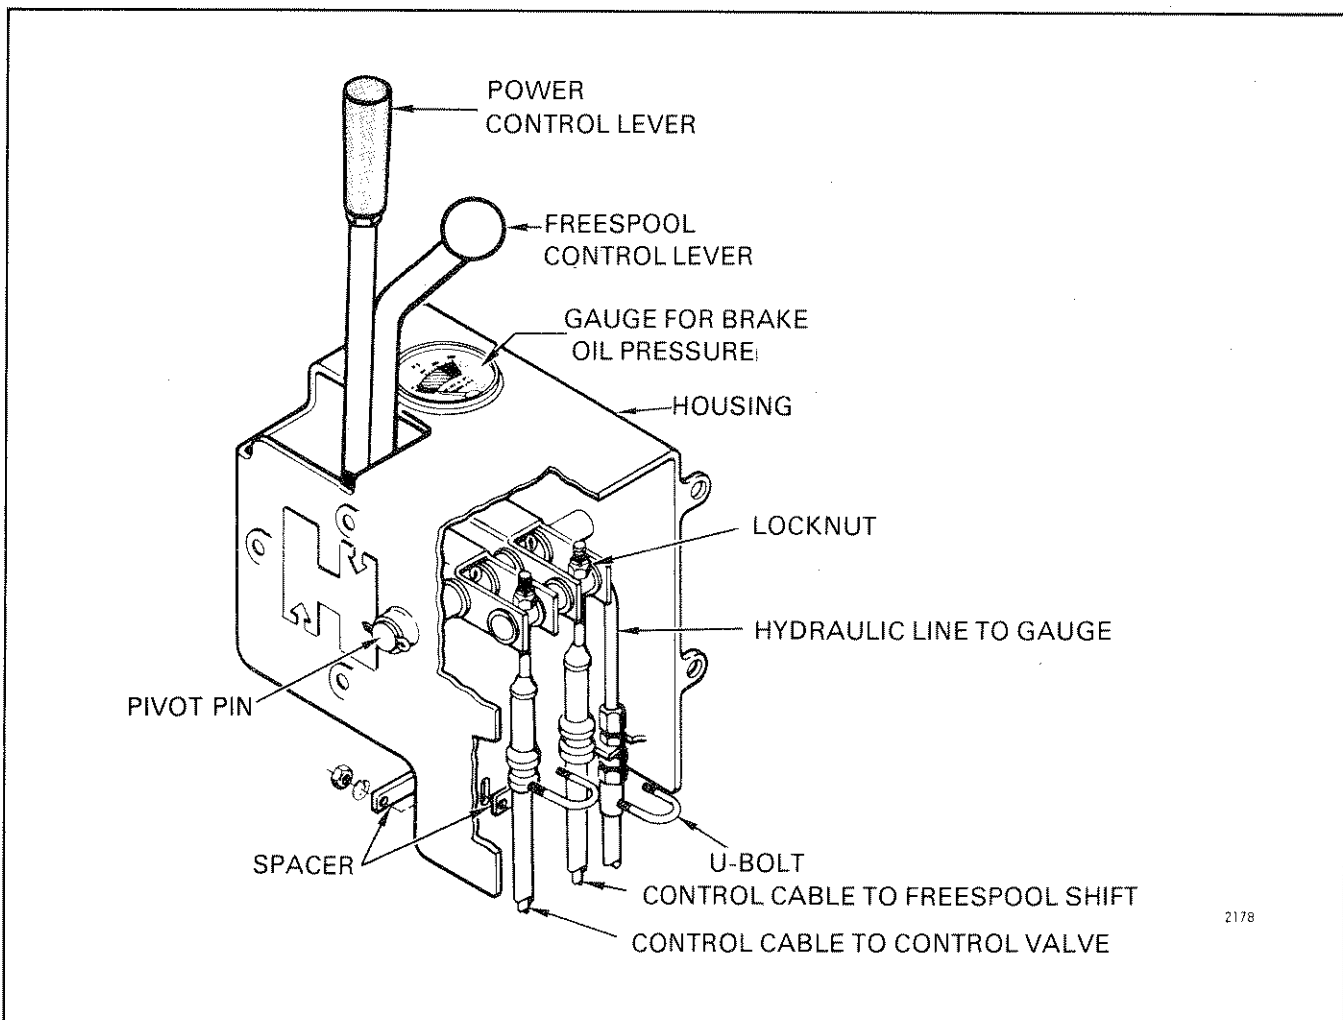

FIGURE 4.2 CONTROL CABLE ADJUSTMENTS
B. Check that the positions of the power control lever are the same as the position indications on the control housing. Loosen the U-bolt that holds the control cable in the housing to adjust the control lever (see Figure 4.2).
D. Check that the positions of the FREESPOOL lever are the same as the position indications on the control housing. Loosen the U-bolt that holds the control cable in the housing to adjust the control lever (see Figure 4.2).